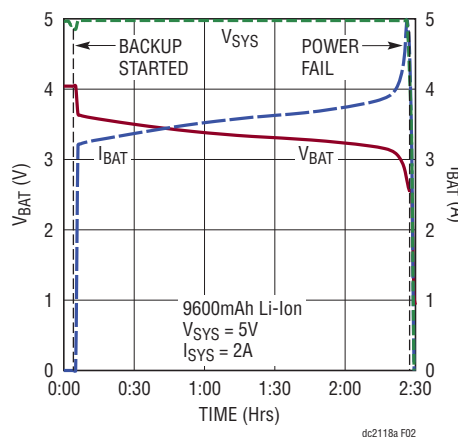

Figure 2. Typical Battery Discharge Cycle
Demonstration circuit 2118A is easy to set up to evaluate the performance of LTC4040. Refer to Figure 2 for proper measurement equipment setup and follow the procedure below.
- Total backup runtime is based on battery capacity, circuit efficiency, and system load. Figure 2 shows an example discharge curve with constant current system load.